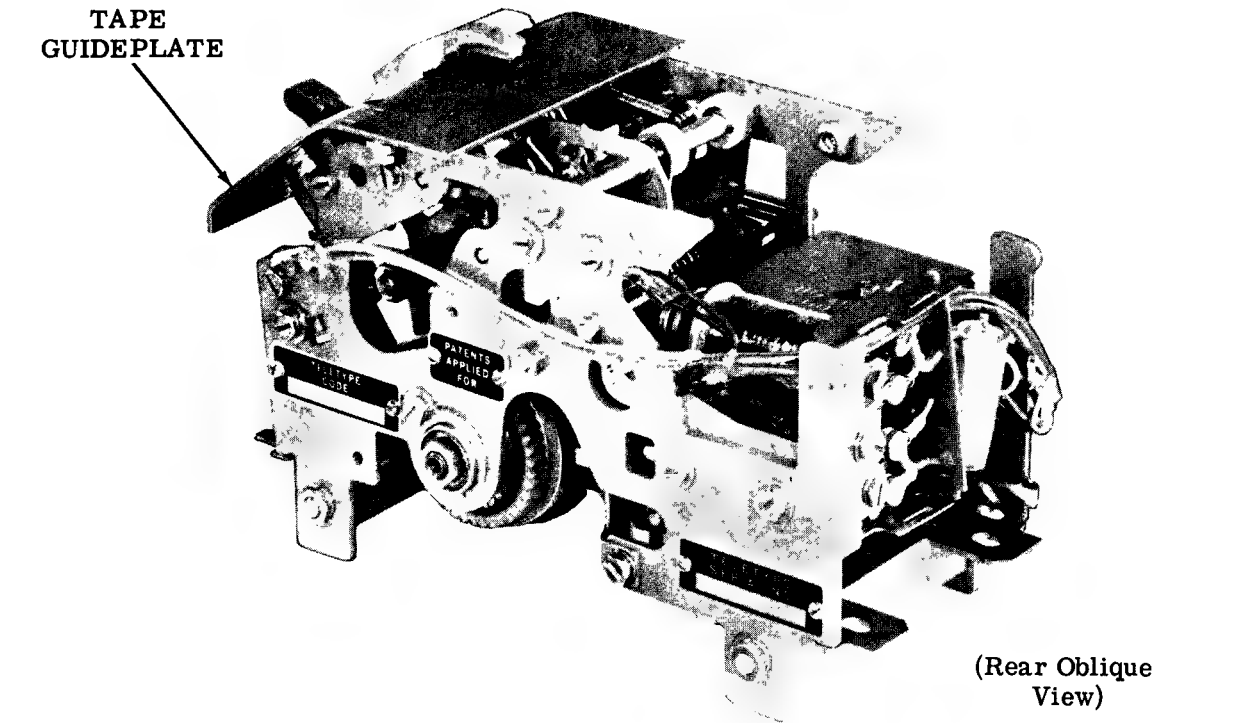

Figure 1 - Typical Transmitter Distributor (Cover Plate Removed)
1.01 This section provides instructions for disassembly and reassembly of the 5- and 6-level, single contact, 28 transmitter distributor unit (Figure 1). These instructions outline a procedure for removing from the unit components or subassemblies, ie, tape guideplate assembly, rear plate assembly, main shaft assembly, and center plate assembly.